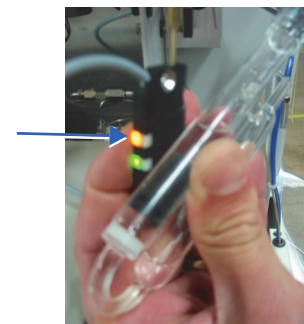

Figure 10.6. Liquid in the sparge vessel actuates the sensor
5. Slowly turn the screw clockwise until the sensor actuates and the orange light goes on (Figure 10.6); turn the screw clockwise an additional ½–¼ turn.